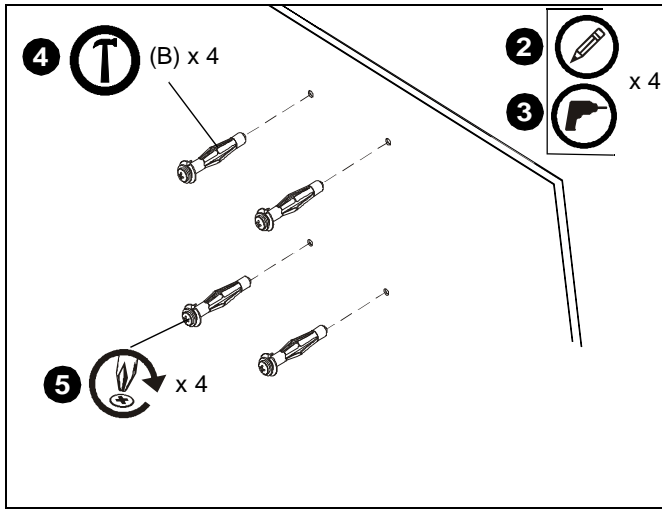
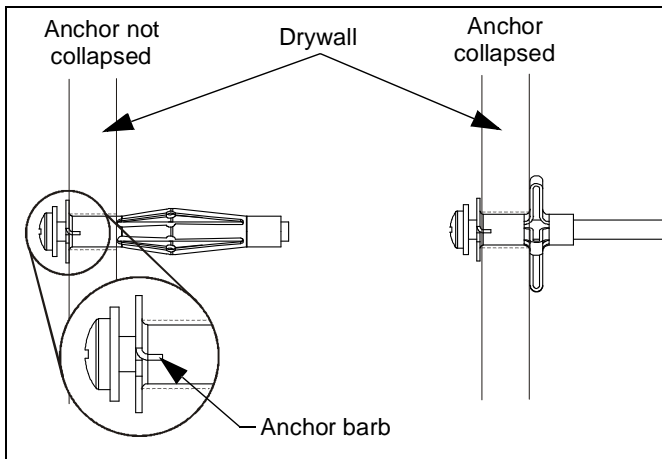

Figure 3
Figure 4
3. Drill 3/8" x 1-1/2" (minimum depth) anchor holes. Ensure holes are straight and completely through drywall. (See Figure 3)
4. Gently tap anchor (B) into anchor hole. Anchor barbs should be fully engaged in drywall (See Figure 4).
5. Using Phillips screwdriver, tighten anchor screw until anchor has fully collapsed against back side of drywall. (See Figure 3) and (See Figure 4)